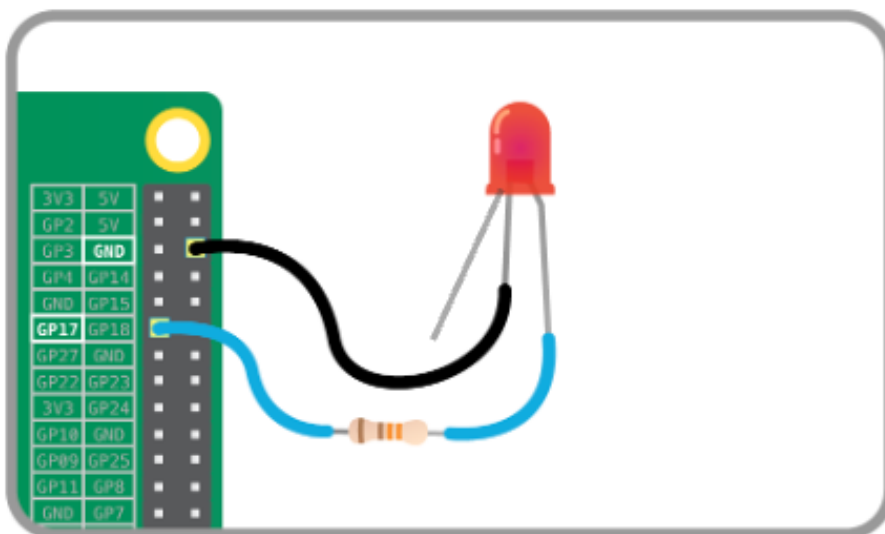

Figure 6: Controlling an LED through a GPIO pin.⁴
4. Finally set the GPIO pin to which the LED is connected as an output. For this example, we are going to assume that the pin is connected to GPIO 17 (see Figure 6). You can now control the LED by setting the value of the pin as *LOW* or *HIGH*. In the following example code, we initially set the LED as turned off and after sleeping the program for 3 seconds we turn it on for 5 seconds and turn it off again. Please copy the code into your *led_exercise.py* script and run it with `python led_exercise.py` command.